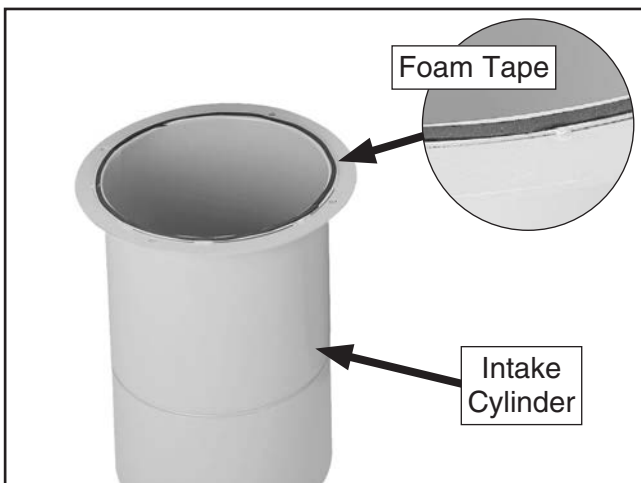

Figure 10. Foam tape stuck on intake cylinder.
2. Attach the 3 x 6mm foam tape to the top of the intake cylinder, as shown in **Figure 10**.